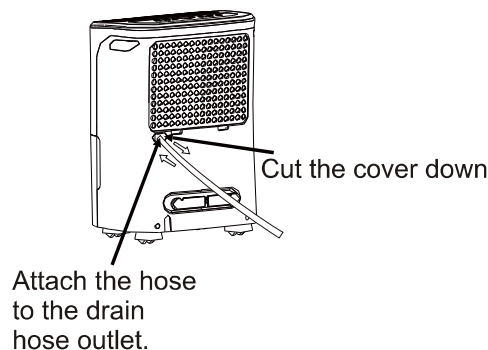

Fig.7
- Cut the cover down from the back drain hose outlet. Attach a drain hose(ID=13.5mm) and lead it to the floor drain or a suitable drainage facility(see Fig.7).